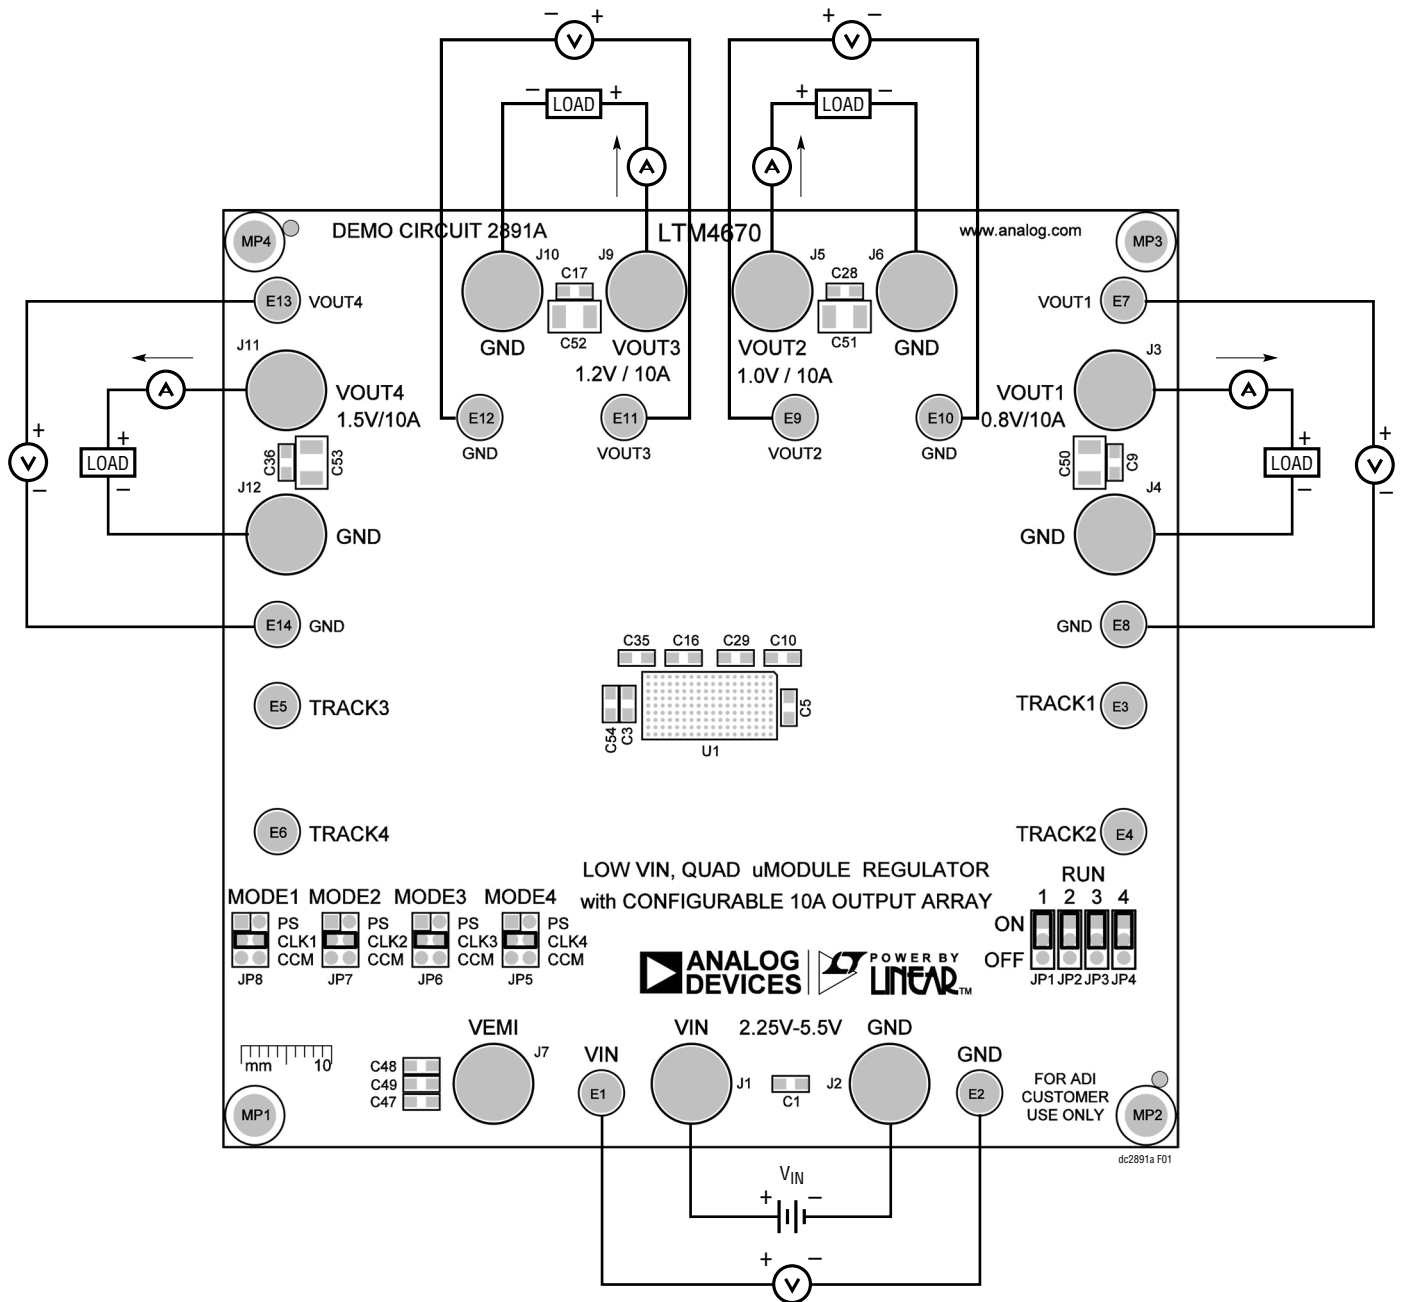

Figure 1. Measurement Setup of DC2891A
Demonstration circuit DC2891A is an easy way to evaluate the performance of the LTM4670EY. Please refer to Figure 1 for proper measurement equipment setup and follow the procedure below.
- With power off, connect the input power supply, loads and meters as shown in Figure 1. Preset the load to 0A and V_{IN} supply to 3.3V.